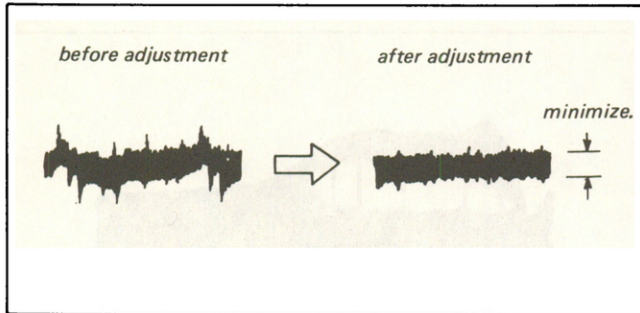

Fig. 4-24. Noise canceller II adjustment
- (1) Playback the color bar signal segment of the alignment tape Beta II mode.
- (2) Connect the oscilloscope to TP12.
- (3) Adjust RV2 for minimum output. (See Fig. 4-24.)